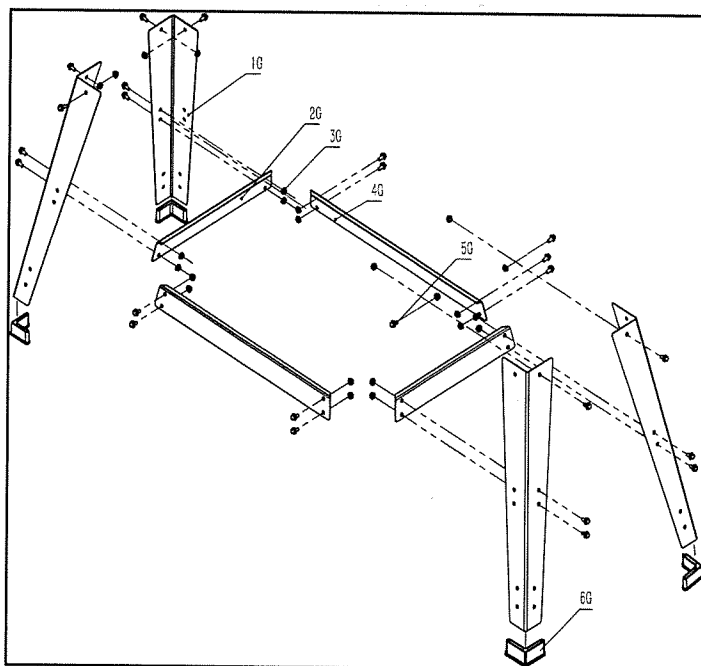

FIGURE 1
1. Install one Short Rail (part #2G) and one side to a pair of Legs (part #1G) using four Hex Head Bolts M6X1 (part #5G), and four Hex Nuts 6mm (part #3G) as shown. FIG. 1.
2. Secure using eight Hex Head Bolts M6X1 (part #5G), and eight Hex Nuts 6mm (part #3G) as shown. FIG. 1.